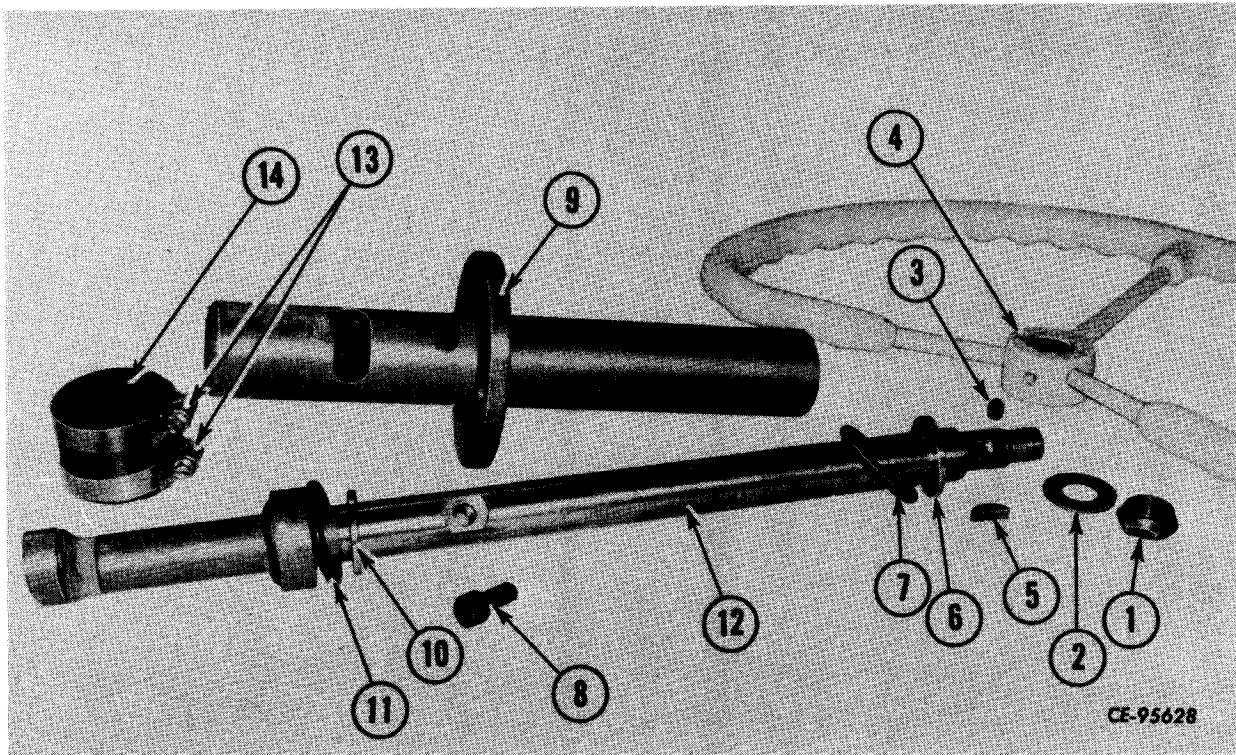

Figure 8-2
Inspect all thrust washers (10, 6, Fig. 8-2), and teflon bushings on the ends of the steering column (9). If these parts are worn or damaged, replace with new parts.